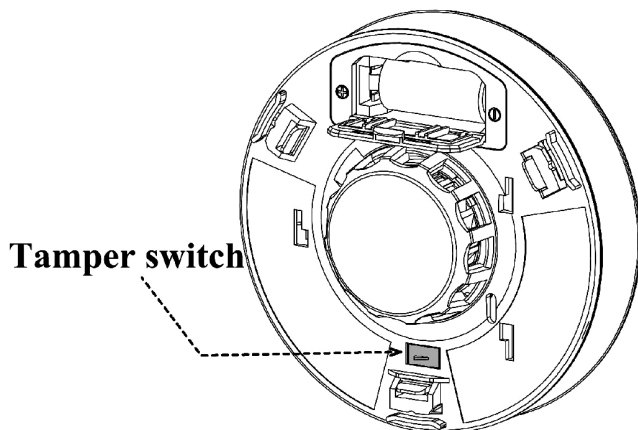

Figure 11: Tamper switch location
TAMPER ALARM: When the detector is removed from its Mounting Bracket, the tamper switch is opened, sounding the tamper alarm. The tamper switch location is shown in **Figure 11**. The tamper alarm pattern is two (2) long alarm beeps with two (2) corresponding yellow LED flashes. **WARNING:**